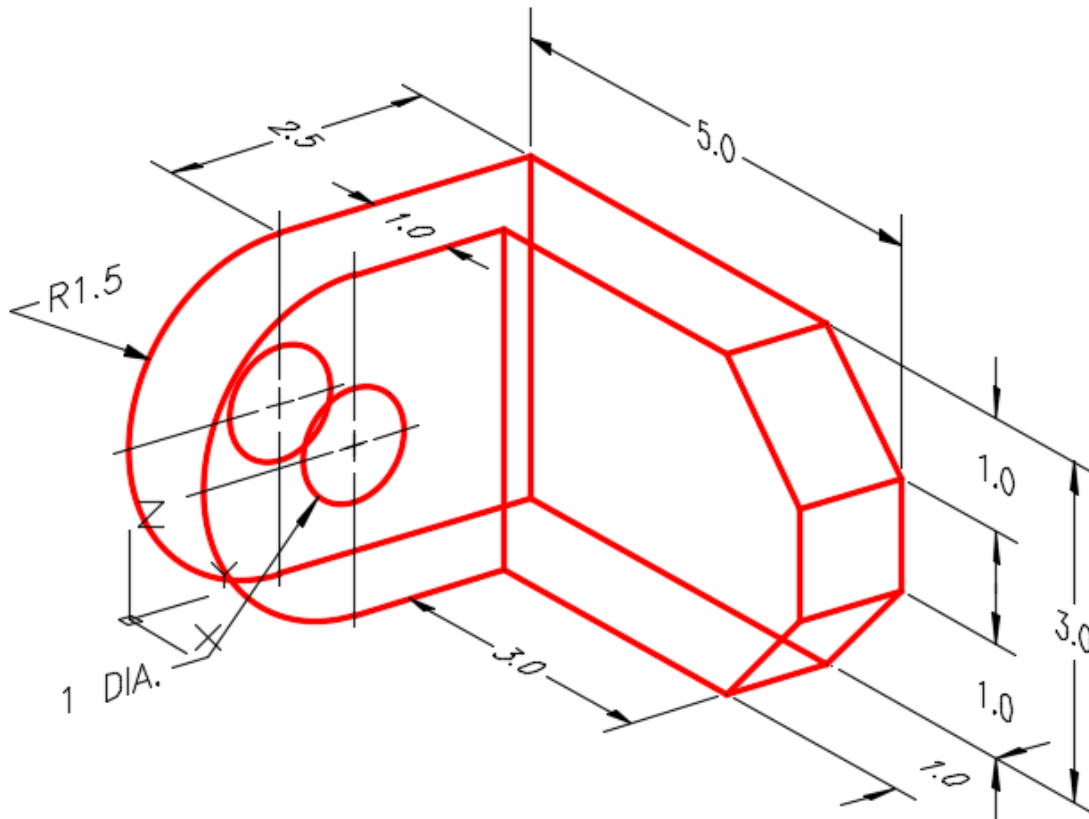

Figure Step 2A
Step 2 Save and name the drawing: AutoCAD 3D Workalong 04-2. (Figure Step 2A and 2B)